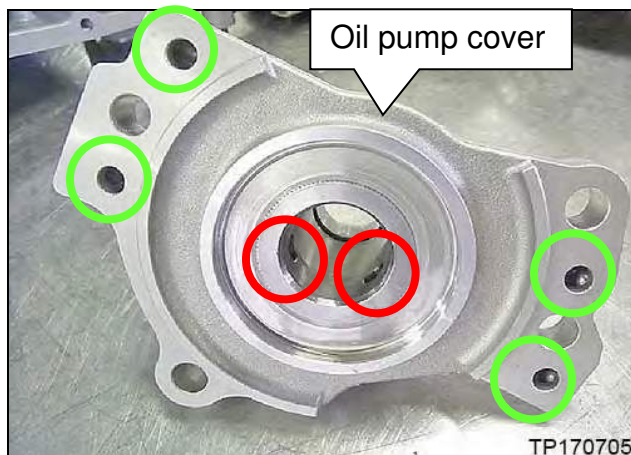

Figure 11L
d. Spray brake cleaner into the oil pump cover oil passages indicated in green shown in Figure 11L.
CAUTION: Do not face the passage indicated in red in Figures 11L and 12L while cleaning.